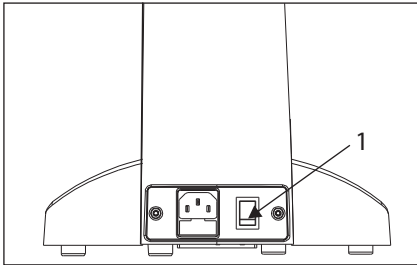

Fig. 20
1. Flip the main switch to "I" (ON) as shown in figure 20.